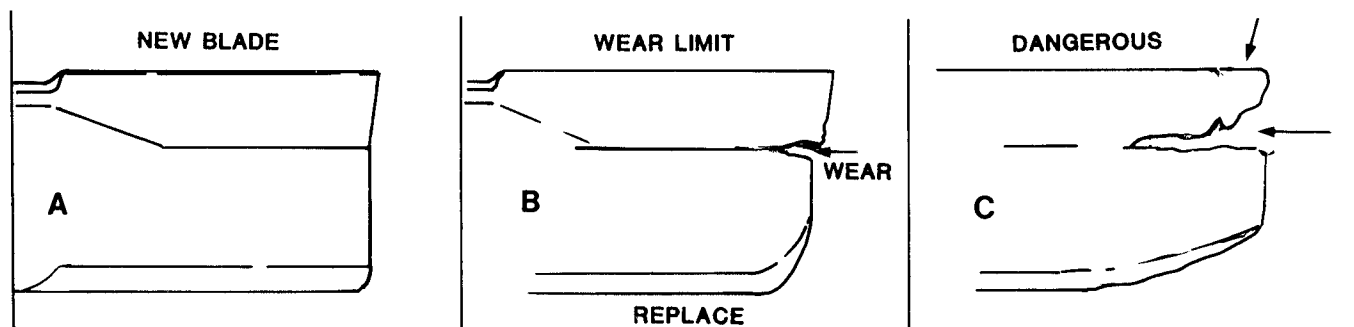

FIGURE 3 — CUTTING BLADE TIP WEAR PATTERNS
**REPLACE** blade if badly chipped, bent, out of balance or as soon as a notch starts wearing in the tip between the flat surface and upturned lift as depicted in View B, Figure 3. This type wear pattern occurs more rapidly under sandy soil conditions. **CAUTION:** Never operate the mower with blade worn to the extent shown in View C as the tip could fly off causing personal injury or property damage.